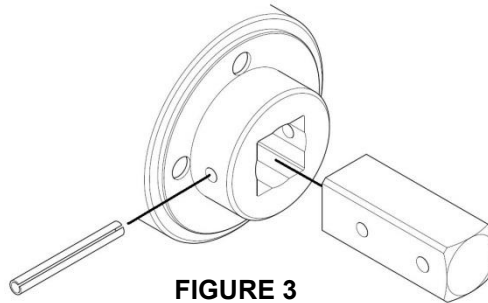

FIGURE 3
3. Push out pin and remove square drive from carrier assembly. (See Figure 3)